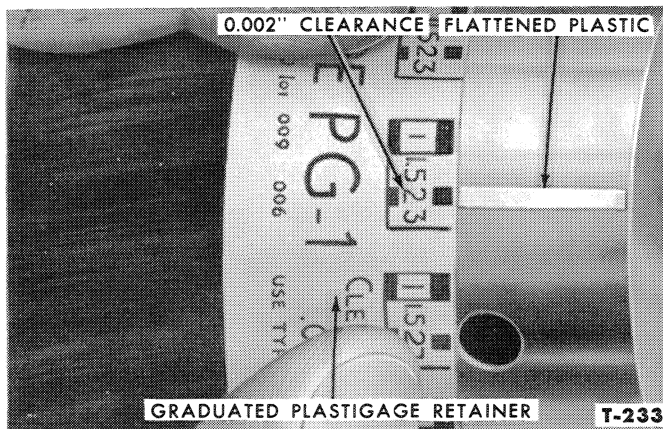

Figure 47—Measuring Flattened Plastigage
2. Remove the bearing cap and use the Plastigage scale to measure the width of the flattened plastic at the widest point as shown in Figure 47.